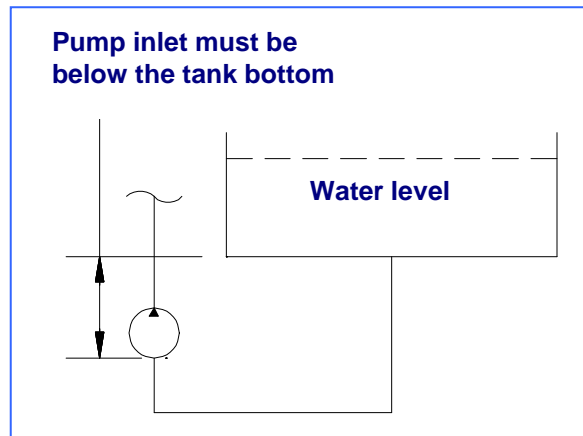

Figure 4.4 – Gravity Feeding Source
- Gravity feeding water source (See Figure 4.4). In this case the electric pump is not required. Use a hose with a diameter of at least 1-1/4" to connect the water tank to the power unit
Ensure that the water source can reliably deliver the maximum pump flow of 16 GPM (60 LPM). A minimum flow of 20 GPM (75 LPM) is recommended to ensure that the pump is not starved of water. If connecting to a gravity feed tank, locate the bottom of the tank above the water inlet connection on the power unit to ensure a flooded suction line. (See Figure 4.4)